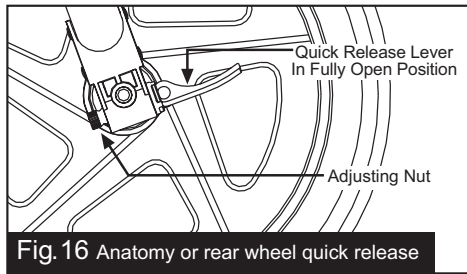
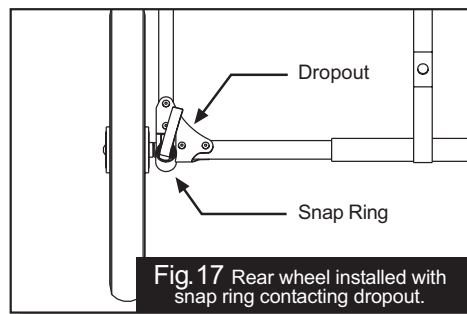
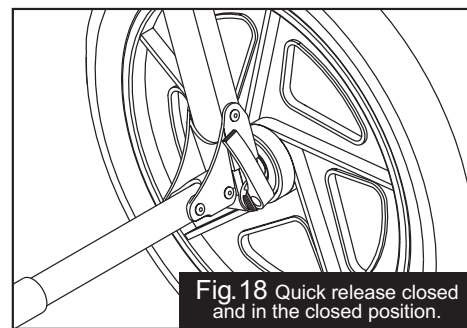
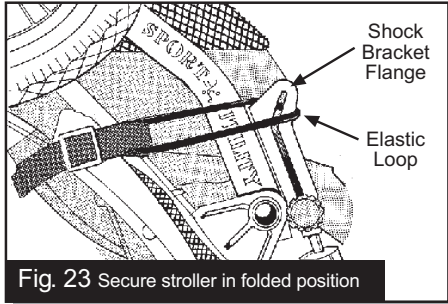

Fig. 16 Anatomy of rear wheel quick release
Fig. 17 Rear wheel installed with snap ring contacting dropout.
Fig. 18 Quick release closed and in the closed position.
Fig. 23 Secure stroller in folded position
9 REAR WHEEL: Fig. 16 shows the anatomy of the rear wheel quick release in its open position. Install the wheel by sliding the wheel into the hole in the rear dropout (Fig. 16) until the washer on the axle comes in contact with the dropout (Fig. 17). If the axle does not slide all the way into the snap ring, it is necessary to loosen the quick release. Do this by placing the quick release in the fully open position, Fig. 16, and loosening the adjust nut on the quick release. Re-install the wheel. The quick release is NOT a nut and bolt system. It is a cam-activated tightening mechanism. Securely tighten the quick release as follows:
- ▶ Move the quick release lever fully open position, Fig. 16.
- ▶ Move the quick release lever toward the stroller, to the closed position, Fig. 18. The word CLOSE should be clearly visible and the quick release lever should be
pointing up and parallel to the swing arm. When it is properly adjusted, it will require considerable pressure to close the lever. If you do not feel this resistance, turn the quick release lever back to the fully open position, Fig. 16. Tighten the adjusting nut by hand (no tools required!) one or two more turns in the clockwise direction. Move the quick release lever toward the closed position, Fig. 18. When properly adjusted, it requires 80-105 inch/pounds of pressure to move the lever to the fully closed position. NOTE: Follow all instructions exactly. If you are unsure how to operate the quick release, consult your dealer.
quick release and removing the wheel. See section # 6 above. The rear wheels are removed by opening the rear wheel quick releases, Fig. 16, and removing the wheels. To keep the stroller in the folded position for storage and transport there are elastic loops at the end of each reclining strap. Simply place the elastic loops around the shock bracket flanges. See Fig. 23. Note: The elastic loop tie down strength is highest when the seat recline strap is in the fully reclined position.